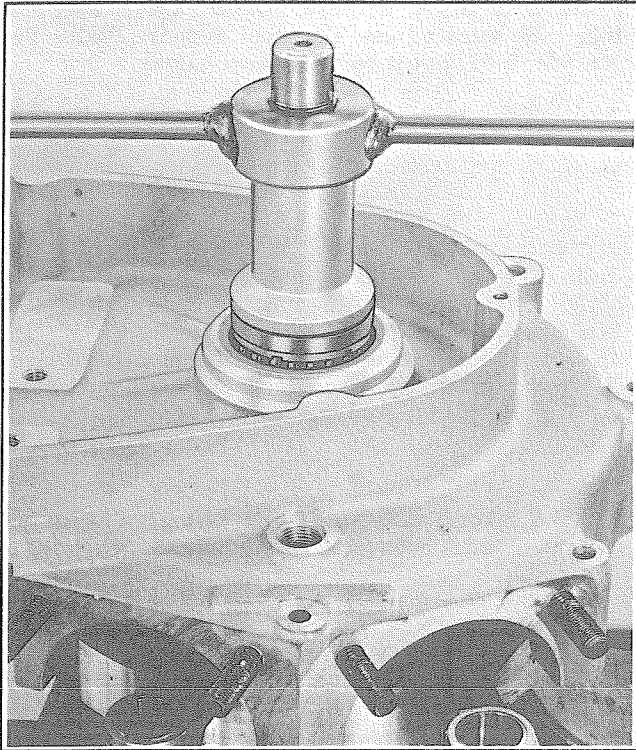

Figure 3E-33. Installing Sprocket Shaft Spacer
4. Insert screw (1) with driver (2) in small end of spacer sleeve (4, Fig. 3E-30). Position sprocket shaft bearing spacer (10, Fig. 3E-20) on flanged end of spacer sleeve (4) with notched side of spacer away from spacer sleeve (4). Position this assembly with spacer against crankcase outer bearing race as shown in Fig. 3E-33. Assemble screw and driver on sprocket shaft. Turn driver clockwise until spacer is tight against bearing outer race. Remove tools and install sprocket shaft bearing spring ring (9).